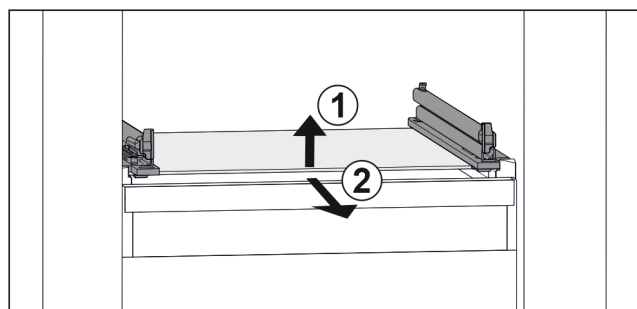

Fig. 52 Example illustration of glass shelf
- Lift glass shelf at the front. Fig. 52 (1)
- Take out glass shelf to the front. Fig. 52 (2)